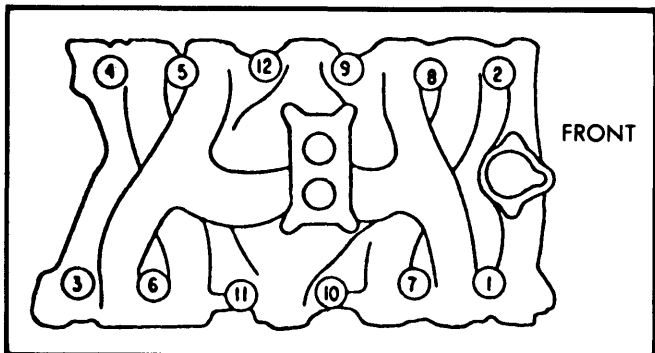

Fig. 7 Intake Manifold Tightening Sequence (Except 305" V8)
**All Others** — Tighten intake manifold attaching bolts, in sequence shown in Fig. 7. Specified torque is 45 ft. lbs.